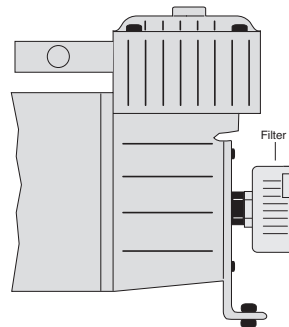

fig. 6
5. Attach the filter (D) onto the compressor (B) (Fig. 6).